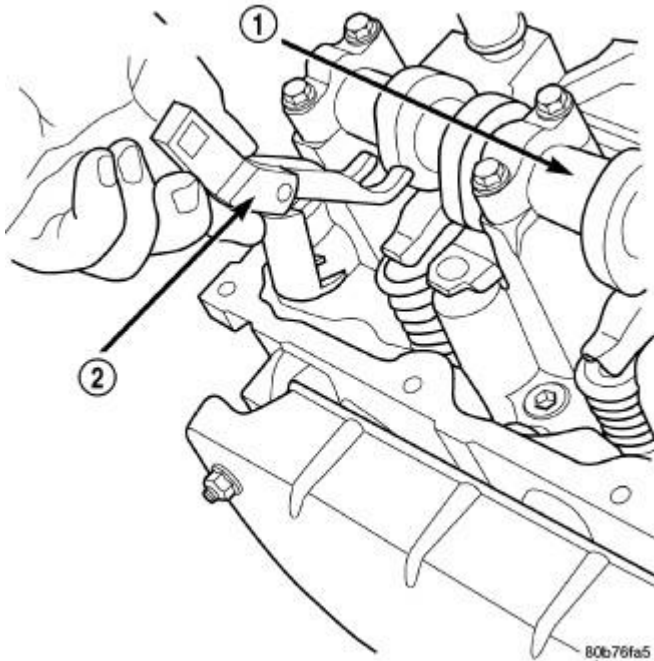

Fig. 71: Rocker Arm - Removal/Installation
5. Using the Rocker Arm Remover/Installer (special tool #8516A, Remover/Installer) (2) press downward on the valve spring, install rocker arm. Refer to **Fig. 71**.